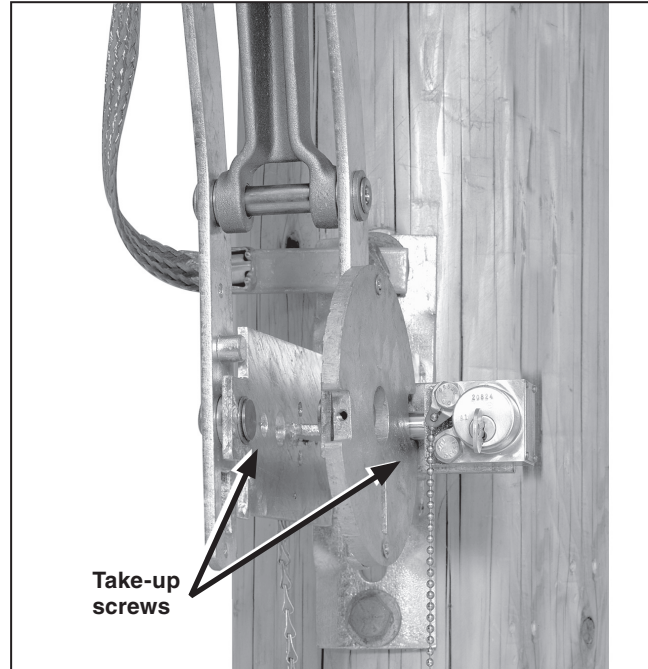

Figure 28. Readjusting the take-up screw(s) on the adjustable pipe coupling(s).
- (d) In the unlikely event only one or two switch poles are fully closed, readjust the take-up screw(s) on the adjustable pipe coupling(s) at the switch pole to increase or decrease the effective length(s) of the interphase operating pipe(s). See Figure 28.